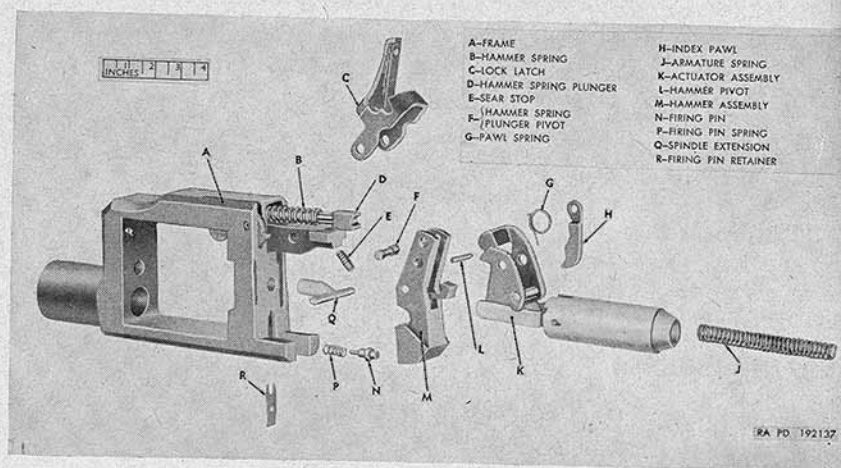
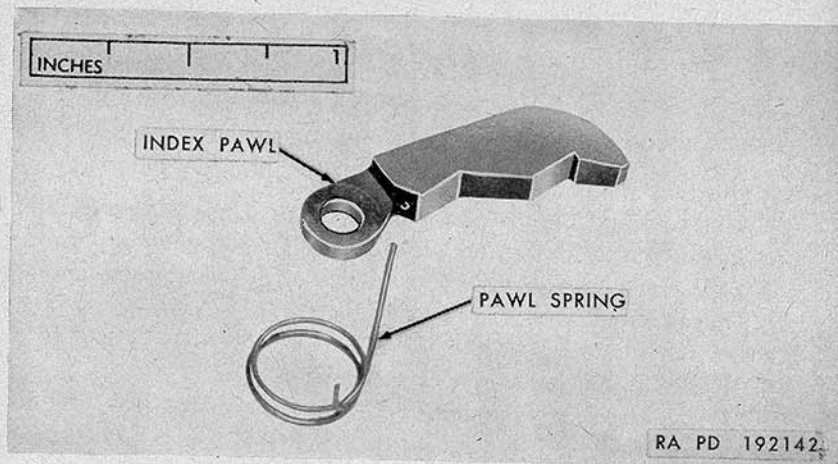

Figure 97. Charger frame group—exploded view.
Figure 102. Installation of pawl spring in index pawl.
- (1) Insert sear from top of frame extension (fig. 97) and screw into place, approximately flush with top of extension.
- (2) Install firing pin spring in lower hole of frame, then firing pin.
- (3) Depress firing pin and slide in firing pin retainer (fig. 97).
- (4) Install spindle extension so that the angled flat faces upward.
- (5) Insert the straight portion of the pawl spring into the small pin hole of the index pawl (fig. 102).